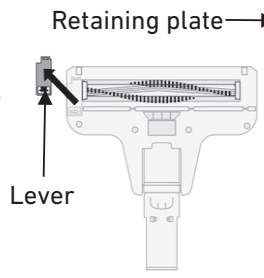

Fig. 17
3. Push the small lever at the side of the brush in the direction of the front of the floor head and lift off the retaining plate. (Fig. 17)